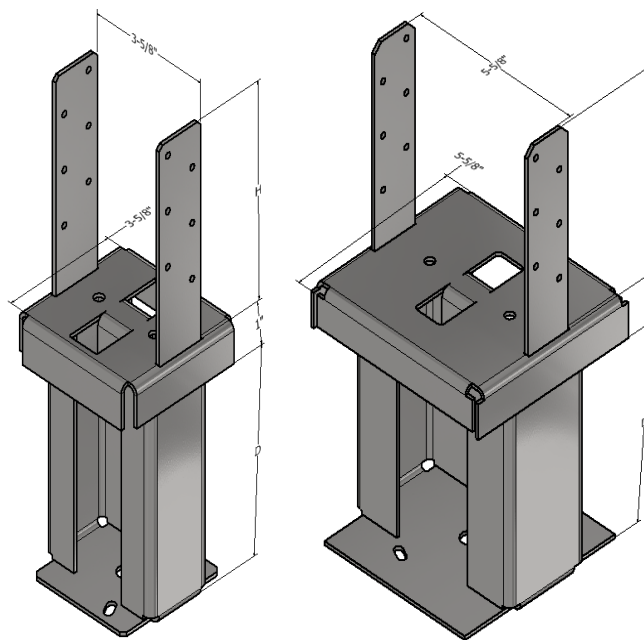

Figure 3. PBA44-4P/6P (Left) and PBA66-4P/6P (Right) Porch Post Base Anchor
- 1.2.1 PBA44-4P/6P and PBA66-4P/6P Porch Post Base Anchors, shown in **Figure 3**, are used to attach the base of a wood post to a concrete foundation. These anchors are designed to withstand vertical construction loads prior to embedment of concrete and to support permanent porch framing throughout all stages of construction. PBA44-4P/6P and PBA66-4P/6P are manufactured from 12-gauge (minimum thickness with coating 0.0994") ASTM A653 Grade 50, Class 3 Structural Steel ($F_u = 70$ ksi, $F_y = 50$ ksi). See **Table 2** for fastening schedules and design values.